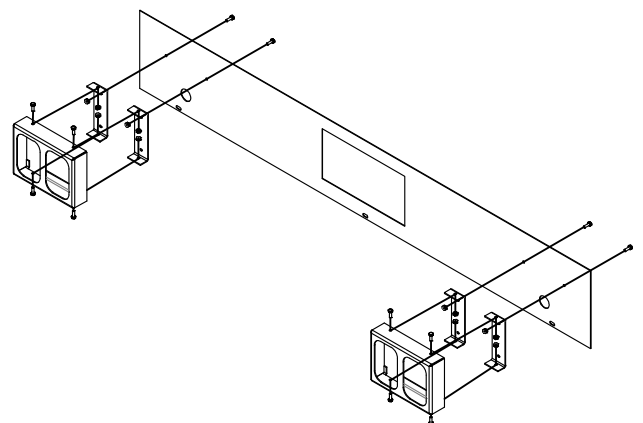

Figure 6
- Step 7. Assemble the light kit as shown using the supplied 1/4-20x3/4" bolts and 1/4-20 Keps nuts. Do not tighten at this time. (Figure 6).
- Step 8. Bolt the light kit to the main frame box cover removed in step 2 using the supplied 1/4-20x3/4" bolts and 1/4-20 keps nuts. Tighten all bolts to 9ft-lb (Figure 6).